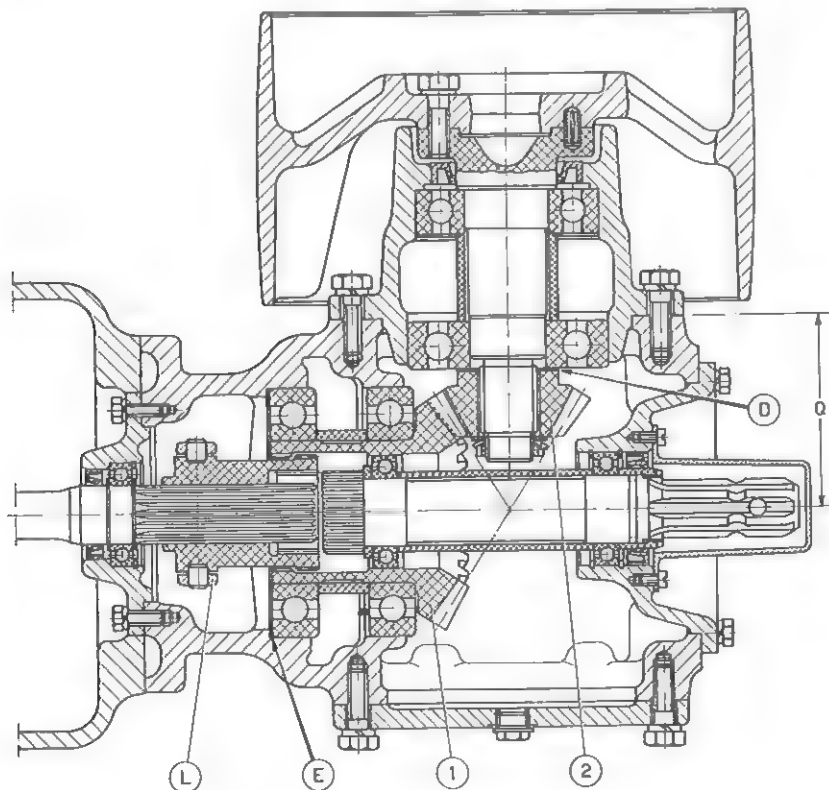

Fig. 49. - Belt pulley unit sectional view.
1. The pulley rim with its 16-teeth pinion (factory set to dimension Q, fig. 49).
2. The drive pinion (2), with 25 teeth, bearings and adjusting shims (E) of various thicknesses.
Install the drive pinion (1, fig. 49) in its seat, complete with bearings, only after having established, as explained further on, the total pack thickness of shims (E), which will be mounted first.
The thickness of shims (E, fig. 49) is found by adding up in hundredths of millimeter the numbers stamped on the following parts: